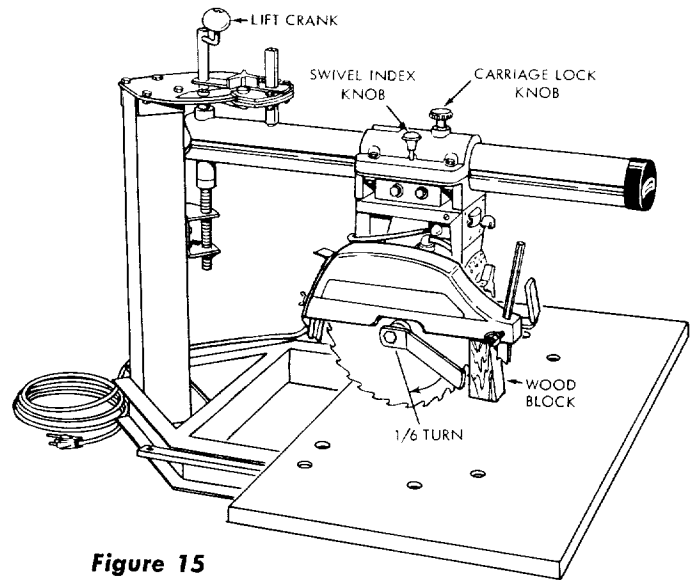
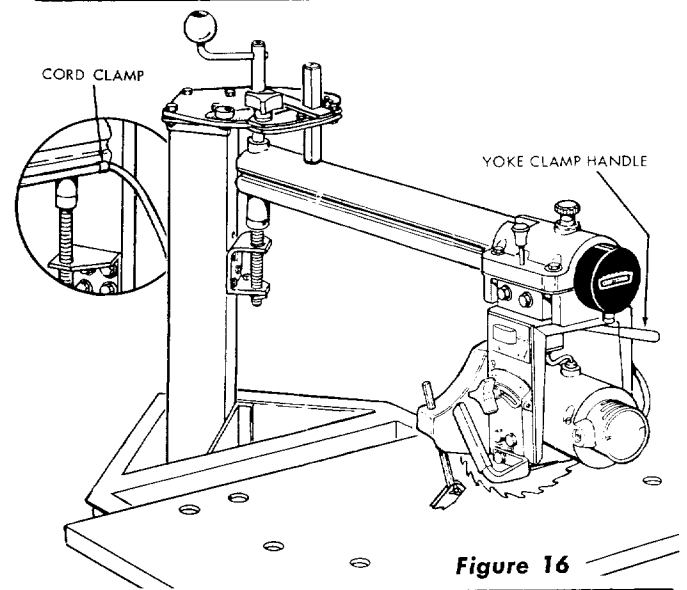

Figure 15
Figure 16
- h. Wedge the saw blade with a block of wood at forward edge of blade (figure 15) and, with the wrench supplied, tighten the arbor (hex-head) screw until the spring washer flattens. Then back the screw off 1/6-turn (one flat on the hex-head screw). (See figure 15.) This allows the blade to slip on the spindle if it should jam in the work.
- a. Loosen the carriage lock knob (figure 15) and move the carriage out to the end of radial arm.
- b. Loosen the yoke clamp handle (figure 16), lift up on the swivel index knob (figure 15) and rotate the yoke clockwise 90° (viewed from above), to position it as shown in figure 16.
- c. Remove all slack from the power cord (figure 16) and attach it to the arm at location shown with the cord clamp and screw from loose parts carton. Tighten the screw securely.
- d. Index the yoke to place the saw blade parallel to the radial arm (as shown in figure 15), move the carriage to the approximate mid point of radial arm and tighten the yoke clamp handle and carriage lock knob.
- c. Loosen the carriage lock knob (figure 15) and move the carriage to position the saw blade near rear edge of front table.